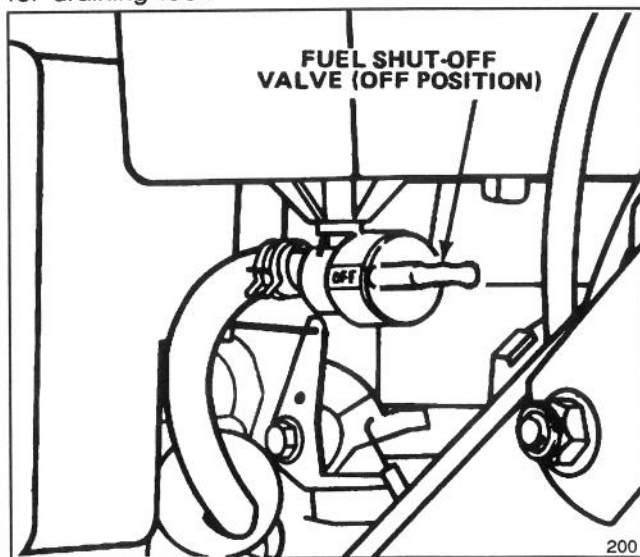

Figure 18
2. Turn fuel shut-off valve to OFF position (Fig. 18).